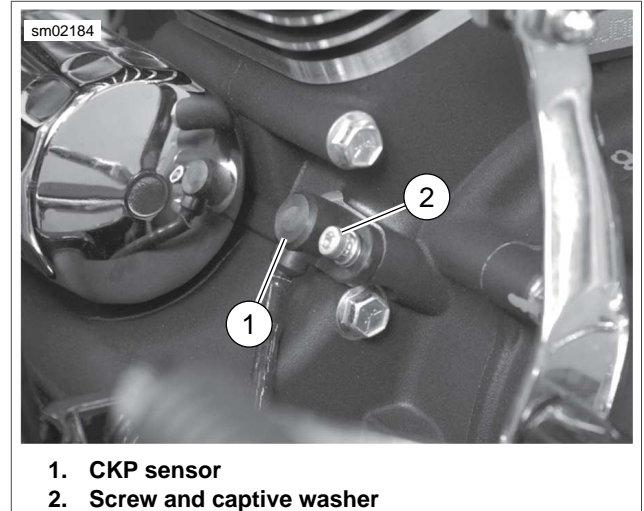

Figure 8-35. Crank Position Sensor
5. See Figure 8-35. Remove screw and captive washer (2) to detach CKP sensor (1) and O-ring from crankcase. Carefully remove crank position sensor.